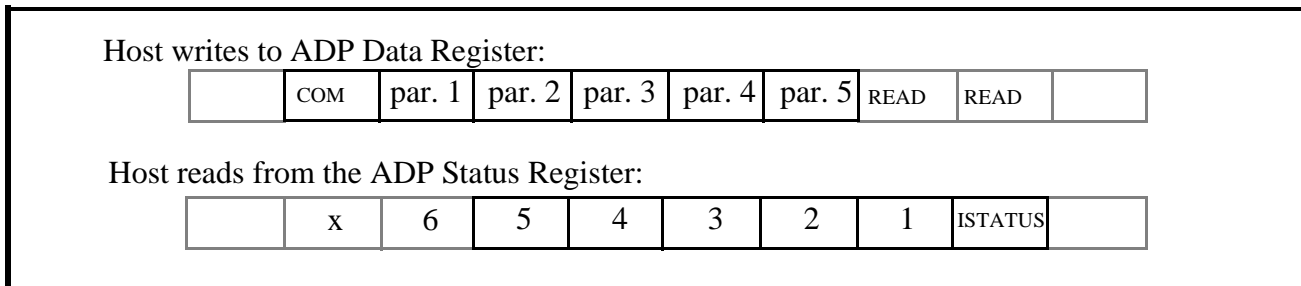

FIGURE 60. The number of bytes left to write always lags by 2.
- **Count** of the bytes still required to complete the command: The returned byte from the ADP shows the number of command bytes (including the opcode and parameter bytes) still expected to be transferred to the ADP. The last expected number is followed by ISTATUS. The last number prior to ISTATUS is 1. Figure 60 shows how an ADP command with five parameter bytes is entered and what bytes are returned until ISTATUS is read. A READ command must be used to extract the ISTATUS byte.
In Figure 60, COM stands for an ADP command opcode byte, and Par.*i* stands for parameter byte number *i*.